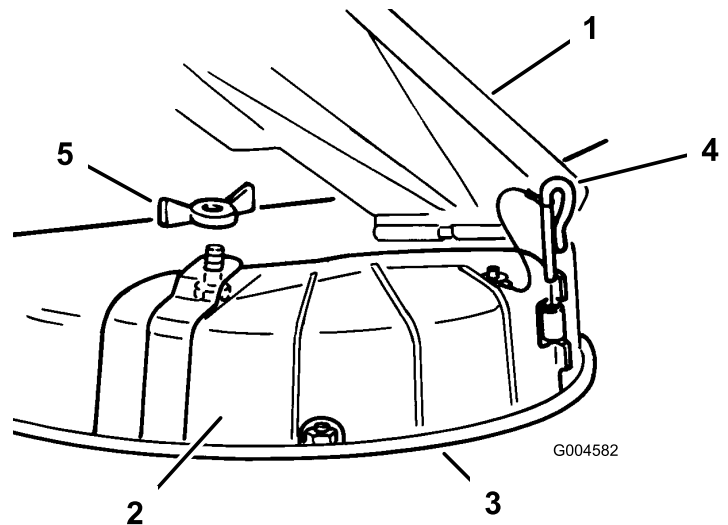

Figure 22
3. Remove the wing nut and bolt securing the cover in place (Figure 22).
4. Remove the hinge pin securing the cover to the deck (Figure 22).
3. Lift the grass deflector and place the discharge cover over the opening onto the lower lip of the mower and slide it into the front hinge (Figure 22).
4. Slide the hinge pin through the hinge (Figure 22).
5. Secure the discharge cover to the mower with the wing nut (Figure 22).